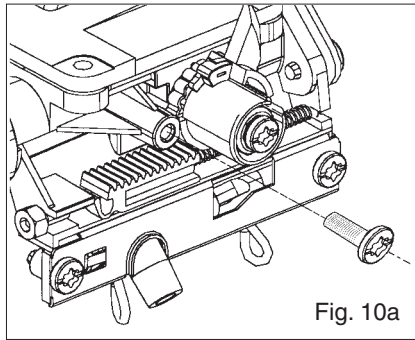

Fig. 10a
- fit the fascia attachment screw (fig. 10a) (supplied in the accessories pouch)